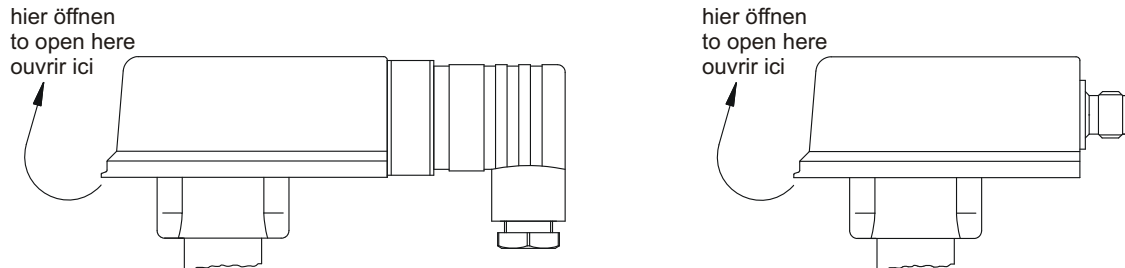

Fig.17
- ☞ In order to adjust the switching unit, open the cover of the switching head (Fig. 17) (not required for VK3...)